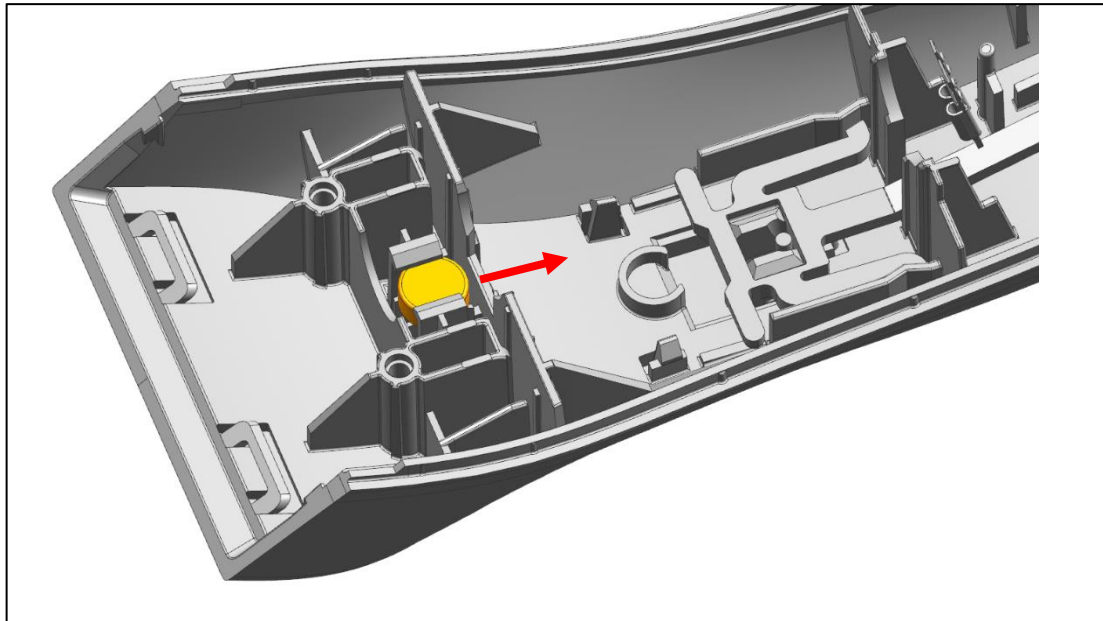

Fig. 9
a) Remove the magnets from the housing from front to rear (Fig. 9).